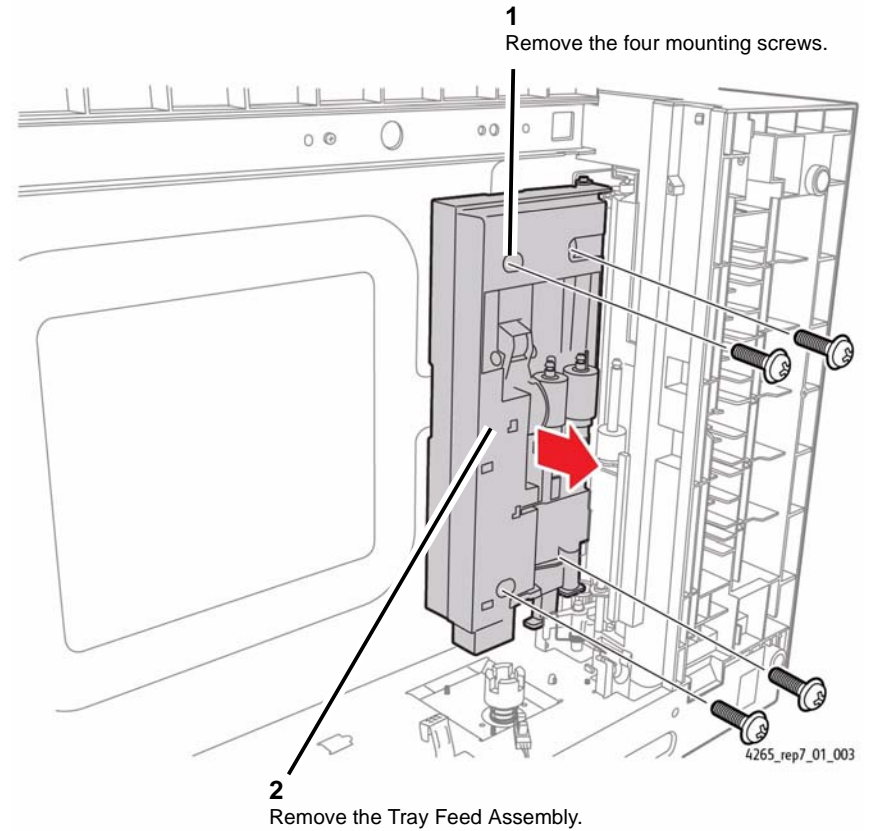

Figure 3 Removing the Tray Feed Assembly
12. Remove the Tray Feed Assembly (Figure 3).